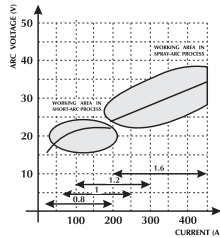

Fig.2 Diagram for selection of best working characteristic.
- Fig.2 and 3 show the relationships between the various welding parameters.